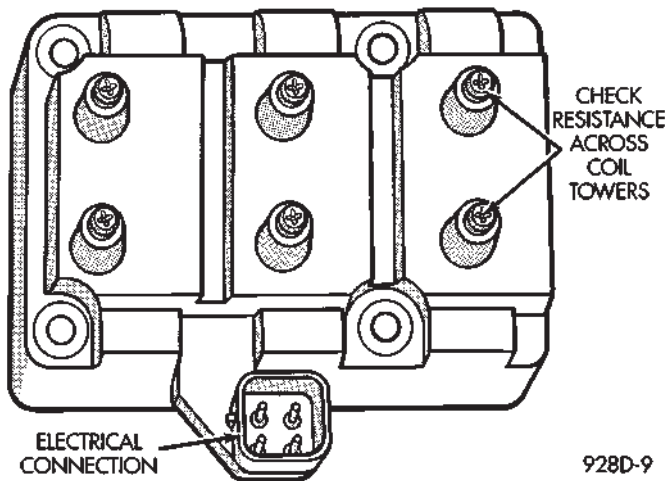

Fig. 8 Checking Ignition Coil Secondary Resistance
- (1) Remove cluster
- (2) Check for ignition voltage at pin E of the red connector. If no voltage, repair as necessary (Fig. 8).
- (3) Check for ground continuity between pin C of the gray connector. If no ground, repair as necessary.
- (4) If voltage and ground OK and pins or connectors are not distorted, replace printed circuit board.
- (5) Install cluster.
(a) If no voltage or ground, remove cluster and check pin E red connector for ignition voltage or pin C gray connector for ground (Fig. 8).